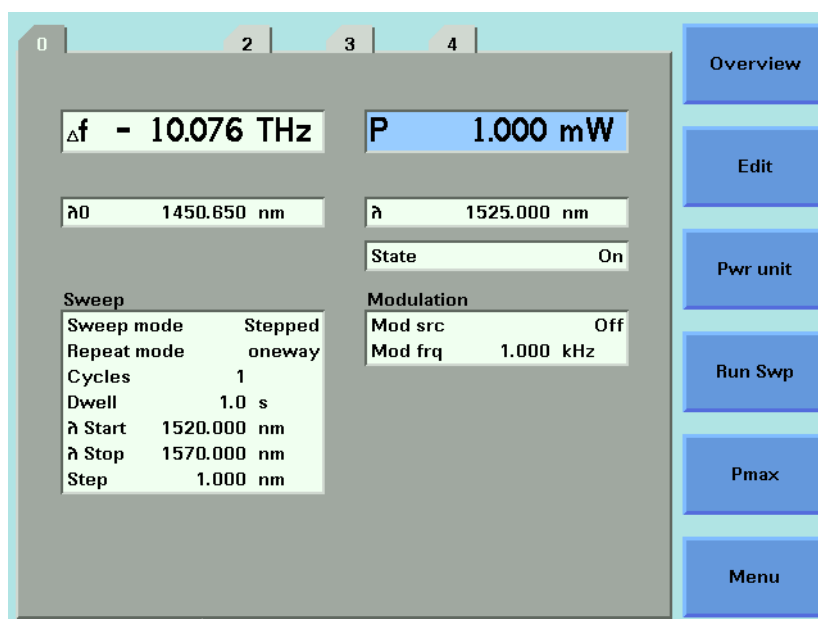

Figure 69 Setting a Relative Wavelength
- 4 Move to *<Offset>*, by using the cursor key, press *Enter*, and press *Close*. You see the screen in Figure 69 .